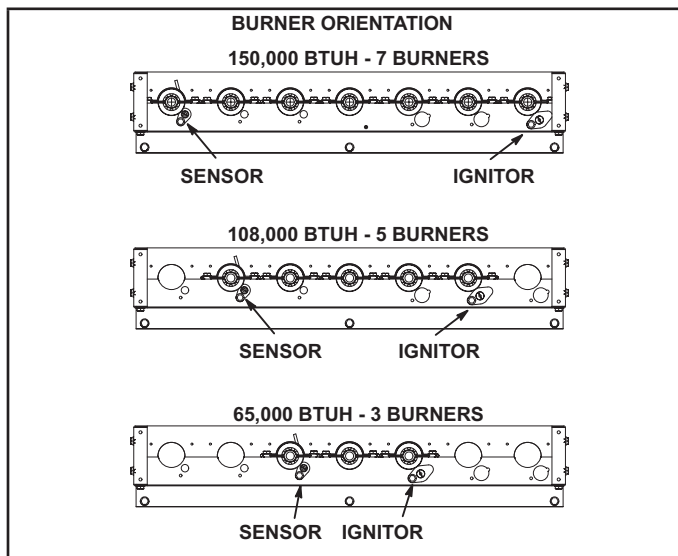

FIGURE 20
- 6 - Replace burners and screws securing burner. See figure 20.